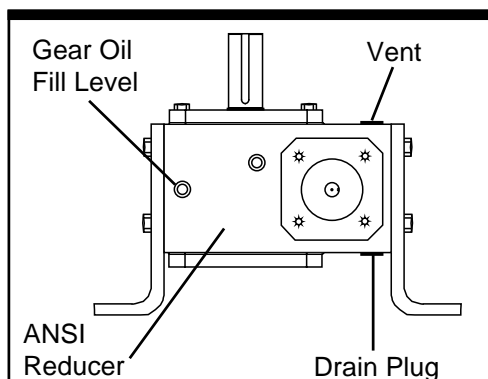

Figure 4-1. Gear Oil Fill Level
▶ Check the level of gear oil before draining (see Figure 4-1). If the level is low, check the reducer's input and output shaft seals for leaks.